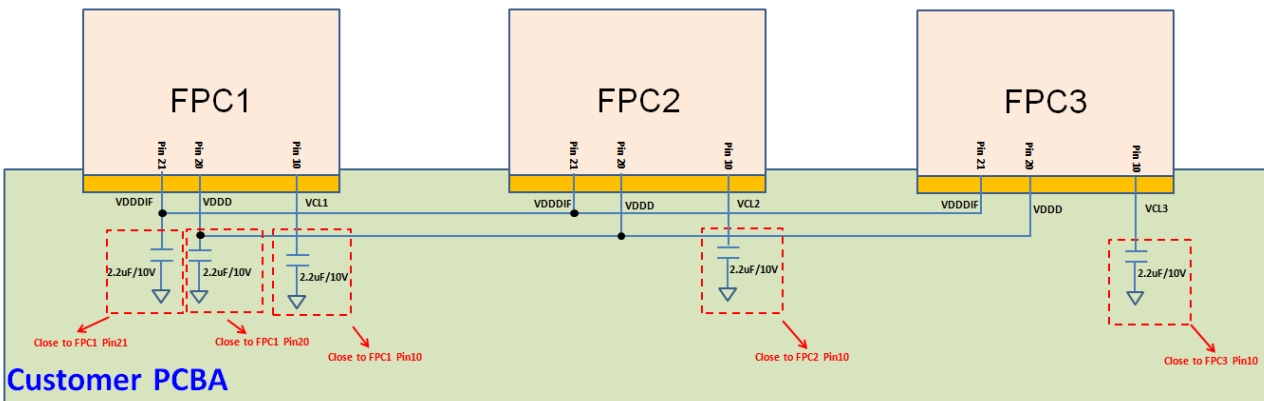

Figure 12: Cascade design for regulator outputs
- (1) The VDDD/VDDDIF/VCL voltages are provided by internal power (Figure 12) ;
- (2) The capacitors of VDDD/VDDDIF/VCL need to be as close to FPC as possible (Figure 12) ;
- (3) The VCL of FPC1 don't need to be short to the VCL of FPC2 and FPC3 (Figure 12) ;